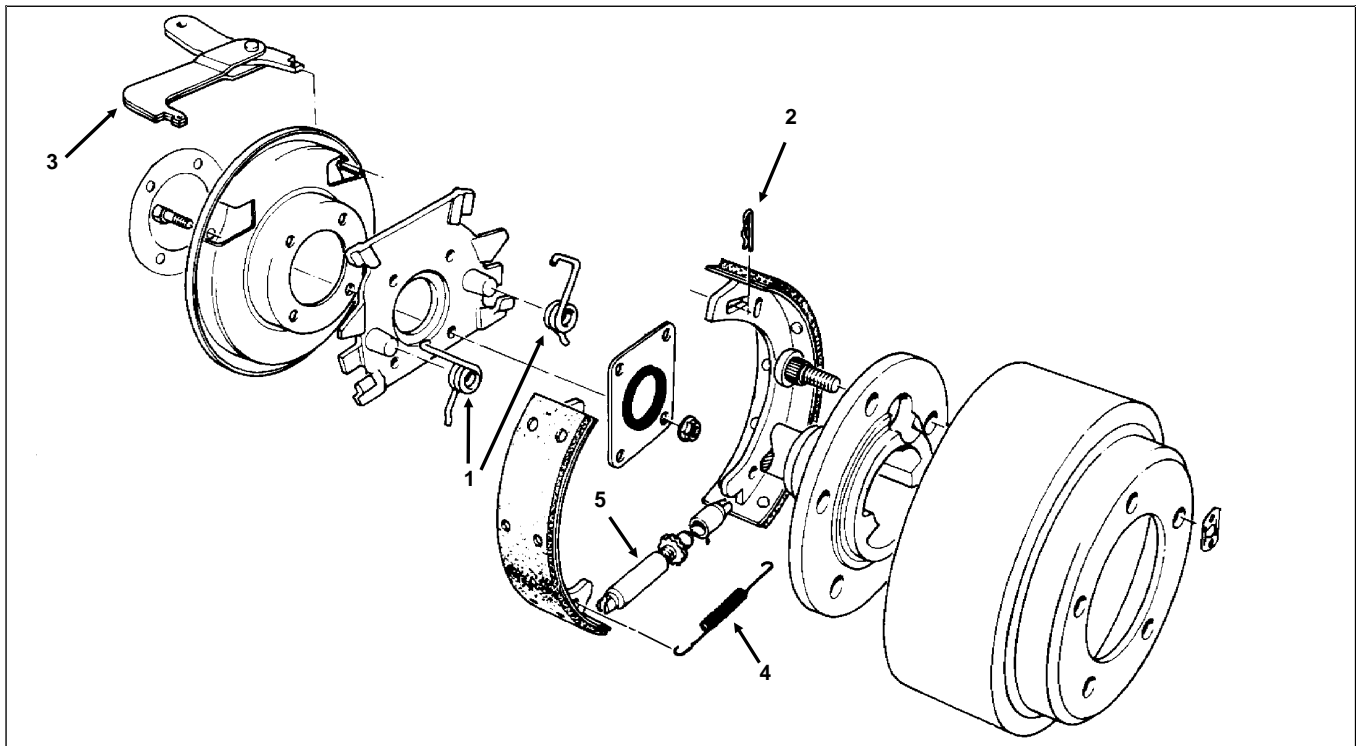

Figure 22
Wear a face shield when removing brake return spring (Fig. 22). The spring is under tension and could possibly slip during removal.
3. Remove brake shoe return spring (Fig. 22) by prying the end of the spring up and over its retaining boss. Use a brake spring pliers or flat blade screwdriver.
8. Install wheel and tire assembly on studs with five (5) wheel nuts. Tighten wheel lug nuts. Remove jack stands or blocking and lower machine to the floor. Tighten wheel lug nuts to a torque of 45 - 55 ft-lb.